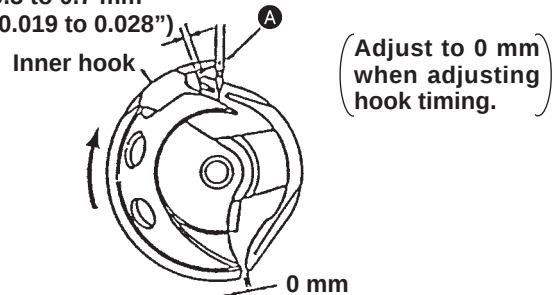

Fig. 2
The center of the needle is aligned with the blade point of inner hook (section A) at the time of step 1) (Fig. 2)
- 6) Clearance provided between the inner hook and the shuttle driver is 0.5 to 0.7 mm. (Fig. 2)
1) Align the lower engraved marker line with the end face of the bushing referring to the height of the needle bar of the standard adjustment. 2) Loosen setscrew ❶ in the shuttle driver and adjust the direction of rotation and the longitudinal direction. (Caution) Be sure to turn the inner hook in the direction of the arrow mark as shown in (Fig. 2) when performing the adjustment of the inner hook timing. 4) Loosen setscrew ❷ in the shuttle and turn eccentric shaft ❸ to adjust the clearance. 5) Loosen setscrew ❷ in the shuttle and adjust the clearance. Take care when adjusting the clearance provided between the needle and the blade point of the inner hook of the item 4). (Caution) The clearance provided between the inner hook and the shuttle driver in the direction of rotation is 0.5 mm to 0.7 mm as shown in (Fig. 2). Tap section ❹ to adjust the clearance. After performing the adjustment, make sure that the upper and lower clearances of section ❸ in terms of the inner hook are equal. The diagram shows a top-down view of a sewing machine shuttle. It features a central circular hub with a smaller circle in the middle. Surrounding this hub is a larger circular frame. Two specific points are labeled: 'C' is located at the top of the frame, pointing to a small adjustment feature. 'D' is located on the right side of the frame, pointing to a larger, curved adjustment area. The frame has several internal lines and segments, suggesting a complex internal mechanism. Fig. 6	1) For floppy materials, slightly retard the hook timing. On the contrary, for heavy-weight materials, slightly advance the hook timing. (For the prevention of stitch skipping) 2) If the clearance provided between the needle and the shuttle driver is larger than 0 mm, the needle is bent in the direction of the blade point of the inner hook. As a result, the blade point of the inner hook and the needle will be damaged. On the contrary, if the clearance is smaller, stitch skipping will occur. 3) If the clearance provided between the needle and the blade point of the inner hook is larger than 0.05 to 0.1 mm, stitch skipping will occur. On the contrary, if it is smaller, the needle and the blade point of the inner hook come in contact with each other, and scratch on them will occur resulting in thread breakage or hangnail. 4) If the clearance provided between the the side face of the needle and the shuttle is smaller than 7.5 mm, needle thread spreading becomes insufficient. As a result, a phenomenon that needle thread is caught in the inner hook is likely to occur. 5) If the clearance provided between the inner hook and the shuttle driver is larger than 0.5 mm to 0.7 mm, hook noise will be increased. On the contrary, if it is smaller, thread, when thick thread or the like is used, will fail to smoothly come out of the hook. As a result, defective thread tightness will occur.